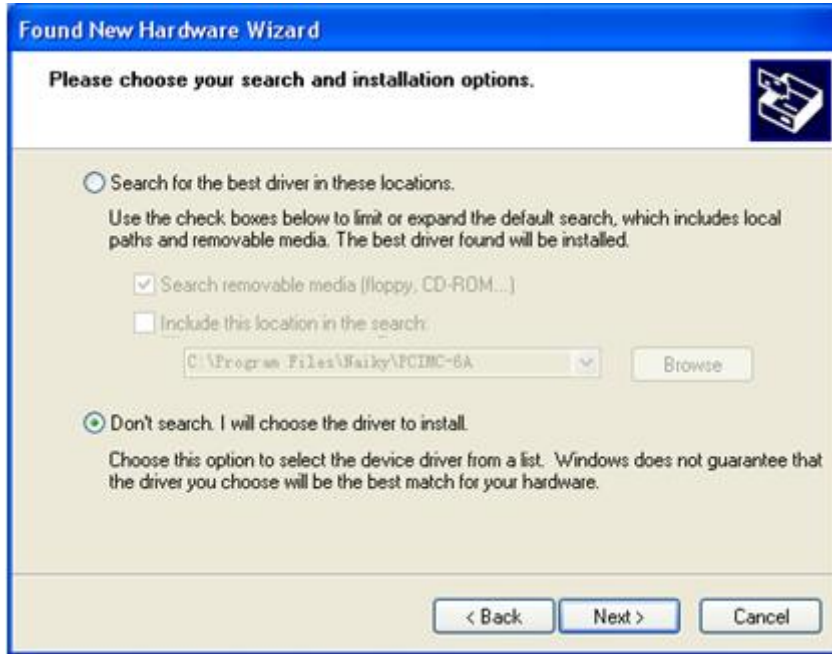

Fig. 2-8 Choose the driver manually
- Select [Install from a list or specific location (Advanced)], and then click [Next]. See Fig. 2-8.